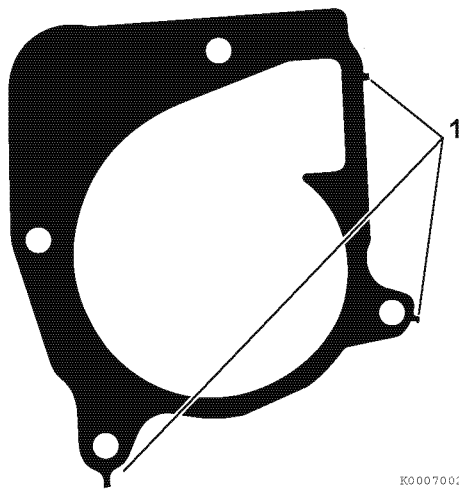

Figure 7-18
7. Cut the coolant pump gasket at the three tabs (1, **Figure 7-18**) then remove and clean any residual gasket material from the engine block and coolant pump.